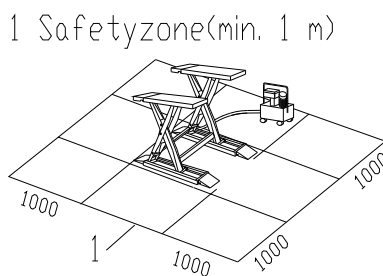

Fig. 6
The safety zone (Fig. 6) is to some extent determined by the dimensions of the vehicle to be lifted.
During lifting- and lowering movements, the operator must be within the zone of operation (1), as shown in Fig. 6. The presence of any person in the safety zone (2) is strictly forbidden. The presence of persons under the vehicle is only permitted if the vehicle is parked in the lifted position.